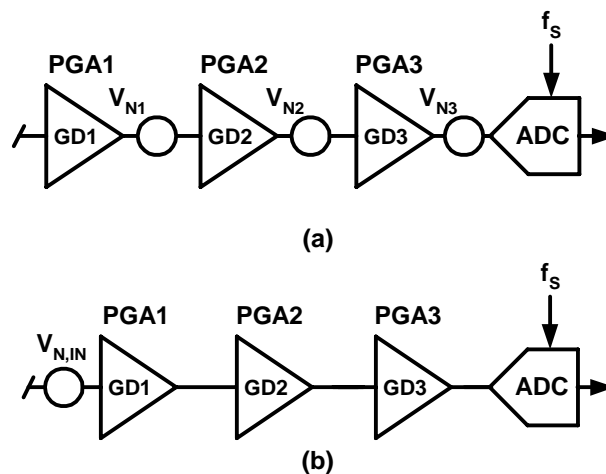
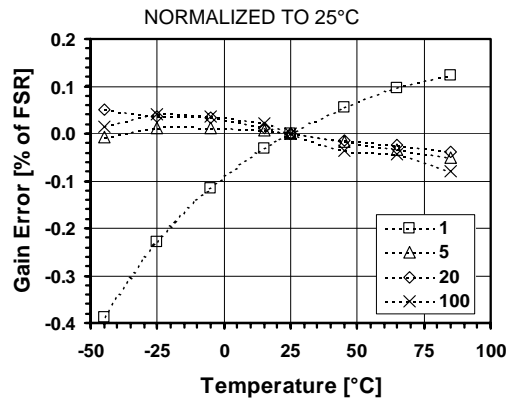

Figure 16-18 (a) Simple noise model for PGAs and ADC and (b) total input referred noise
Figure 16-19 Gain error vs. temperature for different PGA gains
- (1) Gain defined as overall PGA gain $GD_{TOT} = GD_1 \cdot GD_2 \cdot GD_3$. Maximum input voltage is given by: $V_{IN,MAX} = \pm(V_{REF}/2) \cdot (OSR/OSR+1)$.
- (2) Offset due to tolerance on $GDoff_2$ or $GDoff_3$ setting. For small intrinsic offset, use only ADC and PGA1.
- (3) Measured with block connected to inputs through AMUX block. Normalized input sampling frequency for input impedance is $f_s = 512kHz$. This figure must be multiplied by 2 for $f_s = 256kHz$, 4 for $f_s = 128kHz$. Input impedance is proportional to $1/f_s$.
- (4) Figure independent from PGA1 gain and sampling frequency f_s . See model of Figure 16-18(a). See equation Eq. 21 to calculate equivalent input noise.
- (5) Figure independent on PGA2 gain and sampling frequency f_s . See model of Figure 16-18(a). See equation Eq. 21 to calculate equivalent input noise.
- (6) Figure independent on PGA3 gain and sampling frequency f_s . See model of Figure 16-18(a) and equation Eq. 21 to calculate equivalent input noise.
- (7) Resolution is given by $n = 2 \cdot \log_2(OSR) + \log_2(N_{ELCONV})$. OSR can be set between 8 and 1024, in powers of 2. N_{ELCONV} can be set to 1, 2, 4 or 8.
- (8) If a ramp signal is applied to the input, all digital codes appear in the resulting ADC output data.
- (9) Gain error is defined as the amount of deviation between the ideal (theoretical) transfer function and the measured transfer function (with the offset error removed). (See Figure 16-19)
- (10) Offset error is defined as the output code error for a zero volt input (ideally, output code = 0). For ± 1 LSB offset, N_{ELCONV} must be ≥ 2 .
- (11) INL defined as the deviation of the DC transfer curve of each individual code from the best-fit straight line. This specification holds over the full scale.
- (12) DNL is defined as the difference (in LSB) between the ideal (1 LSB) and measured code transitions for successive codes.
- (13) Figures for Gains = 1 to 100. PSRR is defined as the amount of change in the ADC output value as the power supply voltage changes.
- (14) Conversion time is given by: $T_{CONV} = (N_{ELCONV} \cdot (OSR + 1) + 1) / f_s$. OSR can be set between 8 and 1024, in powers of 2. N_{ELCONV} can be set to 1, 2, 4 or 8.
- (15) PGAs are reset after each writing operation to registers **RegAcCfgr1-5**. The ADC must be started after a PGA or inputs common-mode stabilisation delay. This is done by writing bit Start several cycles after PGA settings modification or channel switching. Delay between PGA start or input channel switching and ADC start should be equivalent to OSR (between 8 and 1024) number of cycles. This delay does not apply to conversions made without the PGAs.
- (16) Nominal (maximum) bias currents in PGAs and ADC, i.e. **IB_AMP_PGA[1:0] = '11'** and **IB_AMP_ADC[1:0] = '11'**.
- (17) Bias currents in PGAs and ADC set to 3/4 of nominal values, i.e. **IB_AMP_PGA[1:0] = '10'**, **IB_AMP_ADC[1:0] = '10'**.
- (18) Bias currents in PGAs and ADC set to 1/2 of nominal values, i.e. **IB_AMP_PGA[1:0] = '01'**, **IB_AMP_ADC[1:0] = '01'**.
- (19) Bias currents in PGAs and ADC set to 1/4 of nominal values, i.e. **IB_AMP_PGA[1:0] = '00'**, **IB_AMP_ADC[1:0] = '00'**.
The simple noise model of Figure 16-18(a) is used to estimate the equivalent input referred rms noise $V_{N,IN}$ of the acquisition chain in the model of Figure 16-18(b). This is given by the relationship:
Note: see noise model of Figure 16-18 and equation Eq. 21.
Figure 16-19 shows gain error drift vs. temperature for different PGA gains. The curves are expressed in % of Full-Scale Range (FSR) normalized to 25°C.